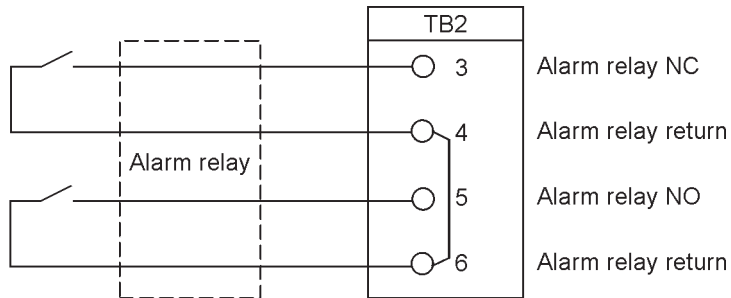
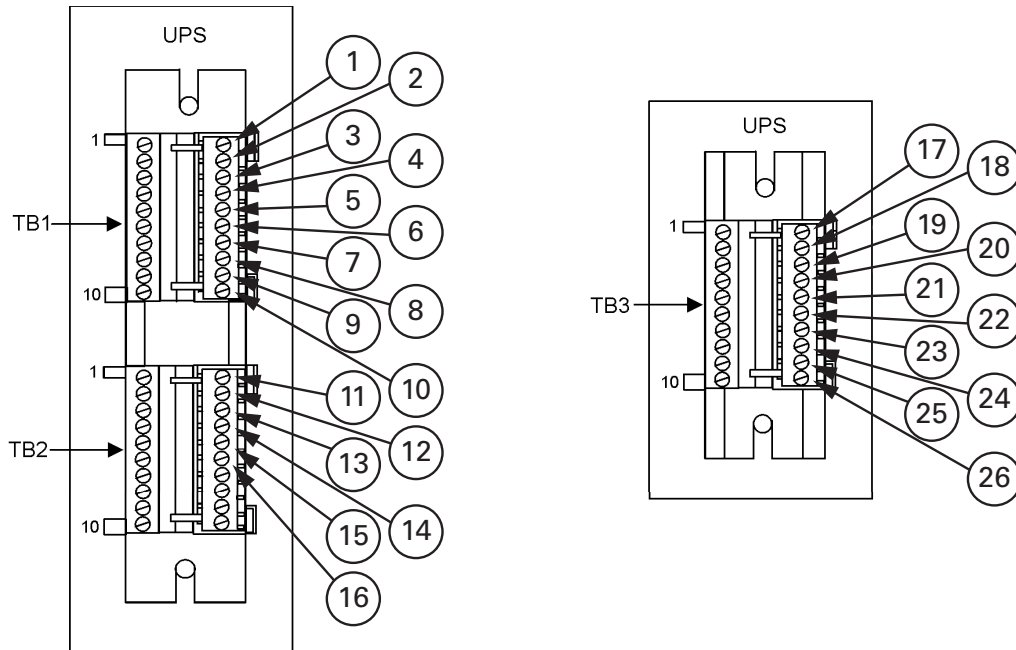
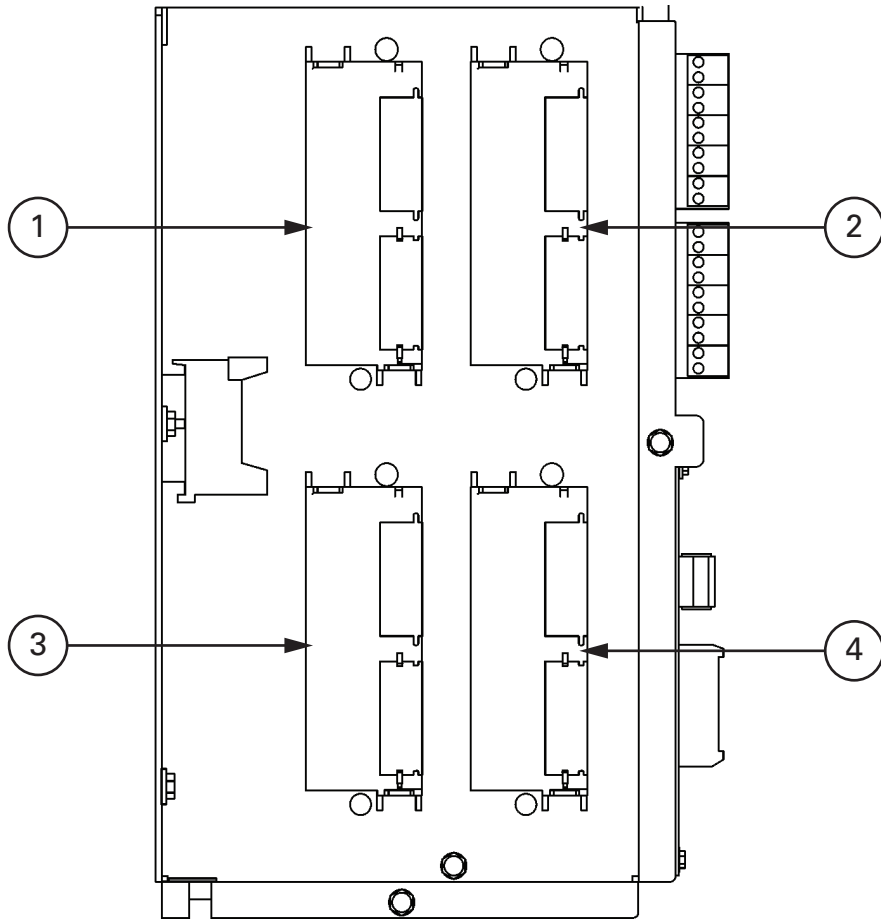

Figure 4-7. Typical alarm relay connection
Figure 4-9. Terminal blocks TB1, TB2, and TB3 connector assignments
Figure 4-11. X-Slot communication bays
10. To locate the appropriate terminals and review the wiring and termination requirements, see Section 3.2.3 on page 23, Table 4-1 on page 41, and Figure 4-7 through Figure 4-9.
For TB1, TB2 and TB3 connector assignments, see Figure 4-9 and for detail AA, see Figure . The X-Slot communication bays are illustrated in Figure 4-11.
5. Route and install the LAN, telephone, and other cables to the appropriate X-Slot cards. See Figure 4-8 on page 37 and Figure 4-11 for X-Slot location.
11. To locate the appropriate terminals and review the wiring and termination requirements, see Table 4-1 on page 48, and Figure 4-9 through Figure 4-11.